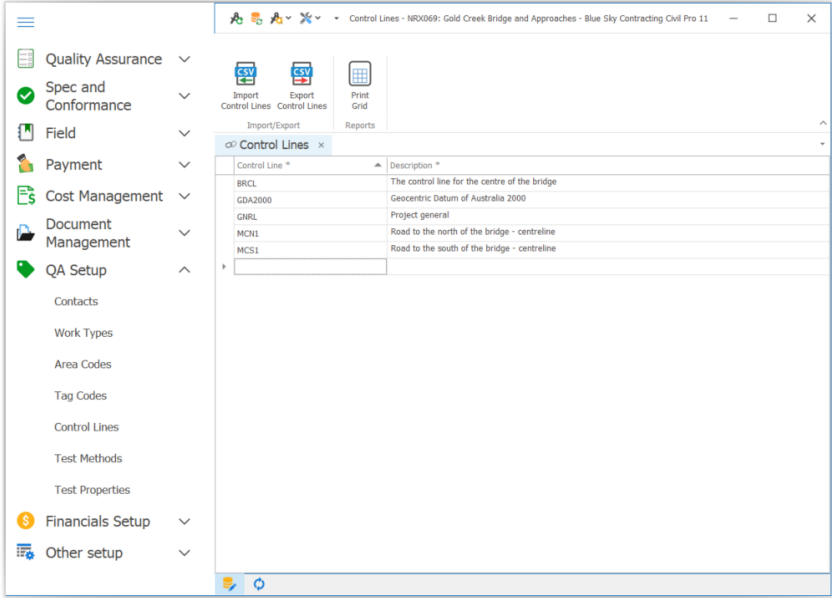

Figure 17 Control Line Register
6. Assign headings, click *Import* and *Finish*. Your register should now look like Figure 17